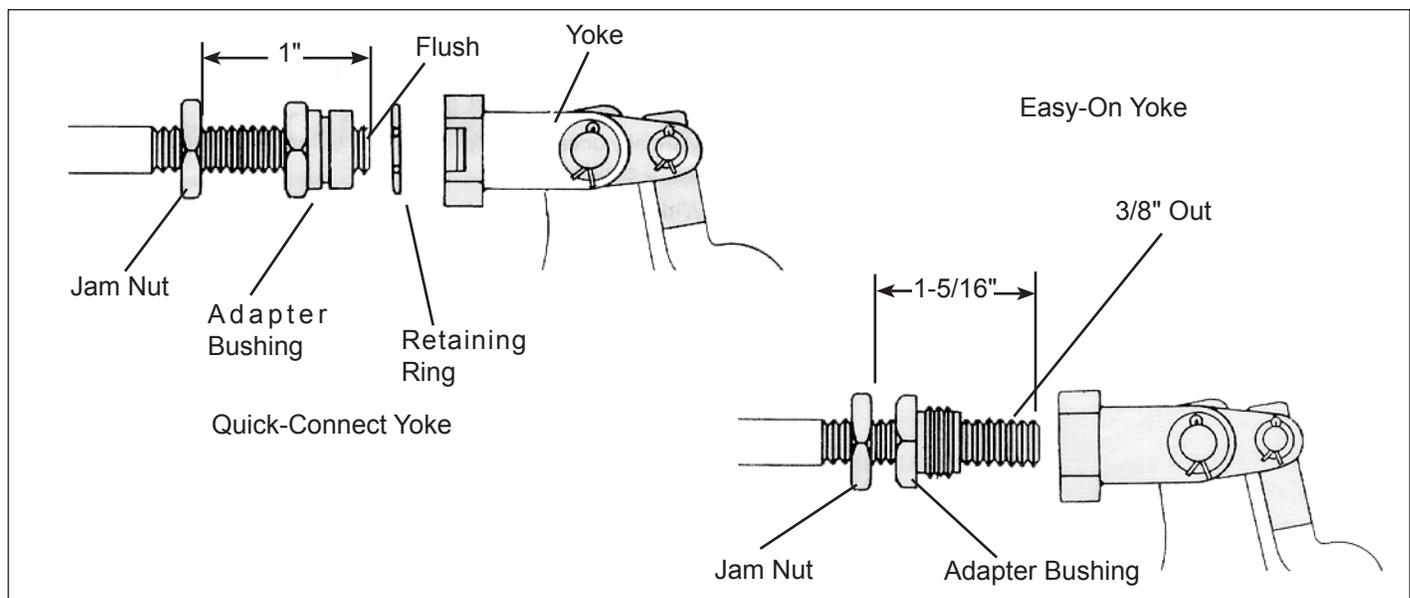

FIGURE 3 - QUICK CONNECT YOKE/EASY-ON YOKE
- Bendix Versajust slack adjusters may be equipped with one of three yoke designs: quick-connect; easy-on; or without a yoke (for use with welded push rods). The quick-connect and easy-on types are designed to permit installation or removal of the slack adjuster along with its yoke body and its attached adjusting linkage. See *Figure 3 for yoke configurations*.